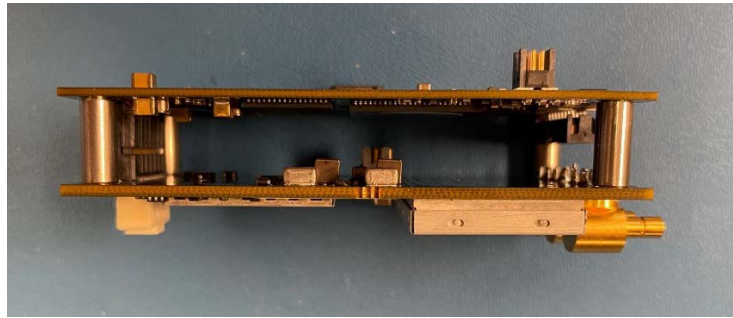

Figure 1: OCU220 Module. Bottom PCB is radio (Figure 2) and Top PCB is processor (Figure 3)
The OCR220 Radio Module (Figure 1) consists of a set of (2) PCB assemblies: a processor board and radio board. The radio board (Figure 2) and processor board (Figure 3) are fastened to each other and used as a board set inside of the host device. This module has been designed exclusively for installation into a client host device called the Wabtec Operator Control Unit (OCU). This module has a form factor of approximately 3.5"x1.5"x1."